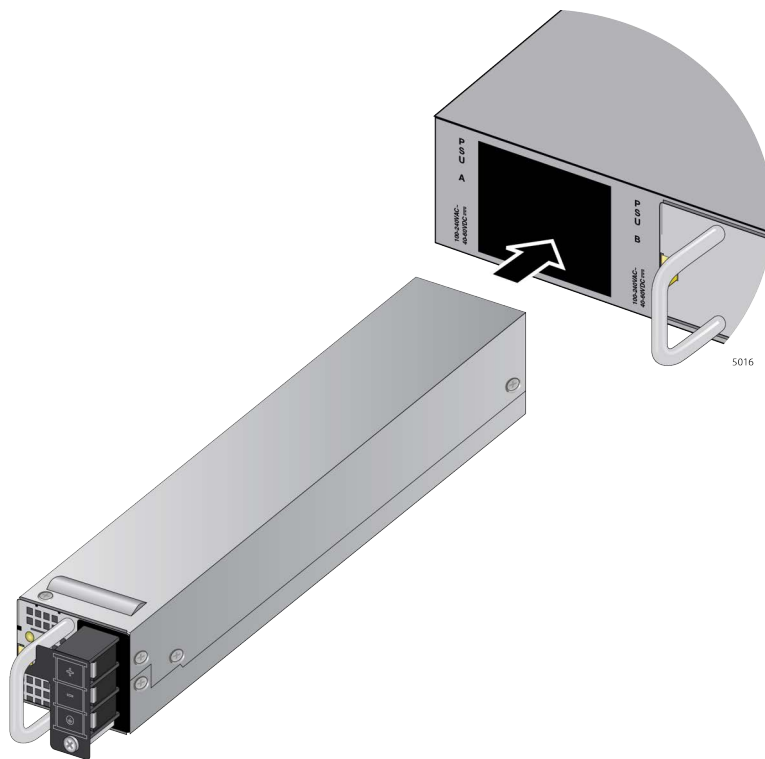

Figure 60. Sliding the PWR600-80 DC Power Supply into the Chassis
3. Carefully align the power supply in the slot and slide it into the slot. Figure 60 shows the module aligned for the PSU A slot.